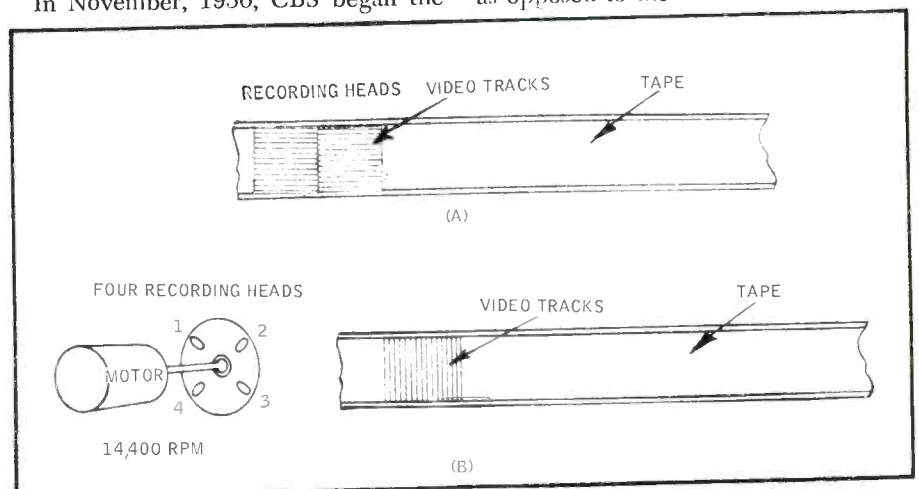

Fig. 1. (A) The longitudinal method of video recording employed by Crosby enterprises. (B) The transverse method of video recording later developed by Ampex.
It was in 1951 that Crosby Enterprises, now the Min-com Division of 3M Company, amazed the television industry by announcing that they had perfected a method of recording both sound and pictures on magnetic tape and demonstrated the first video recorder. This was shortly followed by RCA's announcement of their video tape recorder. Both units operated on essentially the same principle and employed the longitudinal technique of recording. This method is similar to that used in modern audio tape recorders. As illustrated at (A) in Fig. 1, the tape moved across the record/playback heads, which were stationary. The signals were recorded parallel to the tape path, as shown. The one-inch tape in the Crosby recorder moved at a speed of 100 inches per second and provided a bandwidth of 2.5 megacycles. The video signal was separated into eleven different components which were recorded on as many parallel tracks. A fourteen-inch reel of tape was required to obtain a 15-minute video recording. While this bandwidth did not provide any great improvement in quality over the Kinescope (film) recording process then in use (motion pictures were photographed from the screen of the station monitor), the Crosby video tape recorder did offer many other advantages. Most important at the time was the fact that the Kinescope recordings were expensive; the cost of raw film and developing alone was about \$1000 for a one hour show.
Instead of moving the tape across a single stationary record/playback head, as in the earlier systems, the four record/playback heads employed, as well as the tape, were moved. A drum incorporating the four heads rotated crosswise to the tape motion, as illustrated at (B) in Fig 1; as the four record/playback heads revolved each recorded a single track. While the forward motion of the two-inch tape was only fifteen inches per second, the effective tape-to-head speed was 1500 inches per second. This technique, called transverse recording, provided a still greater bandwidth and a picture demonstrably superior to the Kinescope recordings. In addition, a 12½-in. reel of video tape would provide a one-hour recording.